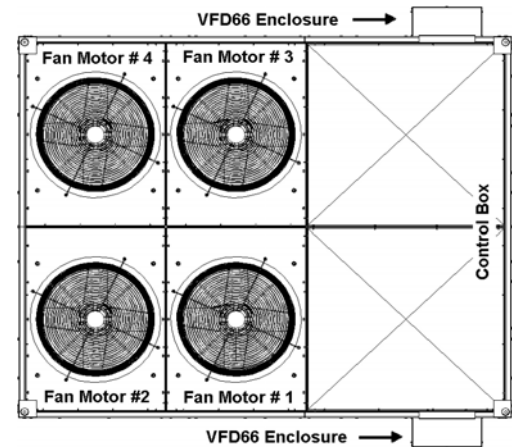

FIGURE 7 - FAN MOTOR #1 LOCATION
3. Install the VFD66 enclosure with the provided screws. Mounting holes are pre-punched in the top rails to locate the enclosure near the condensing unit control box. See Figure 7.